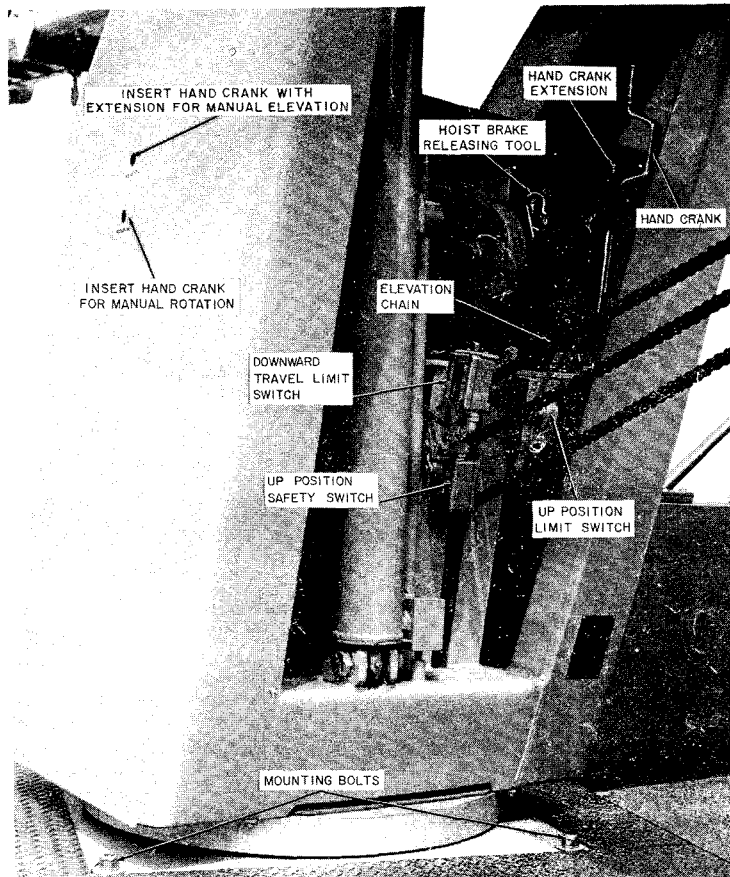

Fig. 11—Turret
- (b) Release the spring-operated hoist brake by inserting the long end of the hoist brake releasing tool (No. 100079 hairpin) into the hole in the exposed end of the brake release shaft on the upper right side of the hoist brake assembly (Fig. 11). Rotate the shaft until the tool can be pushed far enough into the hole to allow the short end of the tool to rest on the ledge of the hoist drive housing. This will hold the brake in the released position. Insert the hand crank with extension into the hole in the driver's side of the turret, and engage the slotted end of the elevation drive motor shaft with the crank to raise or lower the boom.